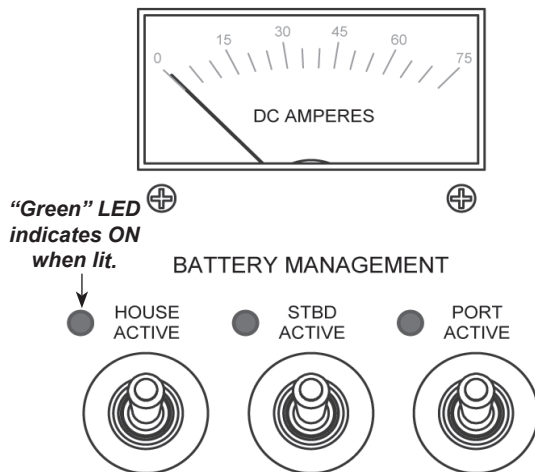

Figure A1: Battery Activation Switches - "ON"
1. Activate the 3 batteries (Port, Stbd & House) by pressing the respective main battery switches located on the 12VDC cabin panel. See Figure A1.